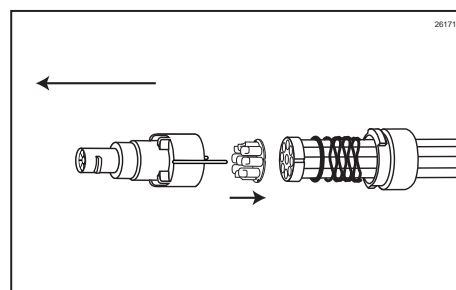

Figure 56
4. Remove the Syrup Line Manifold from the tube connector body, then remove the Duckbill Check Valve from the Syrup Line Manifold. (See Figure 56.)